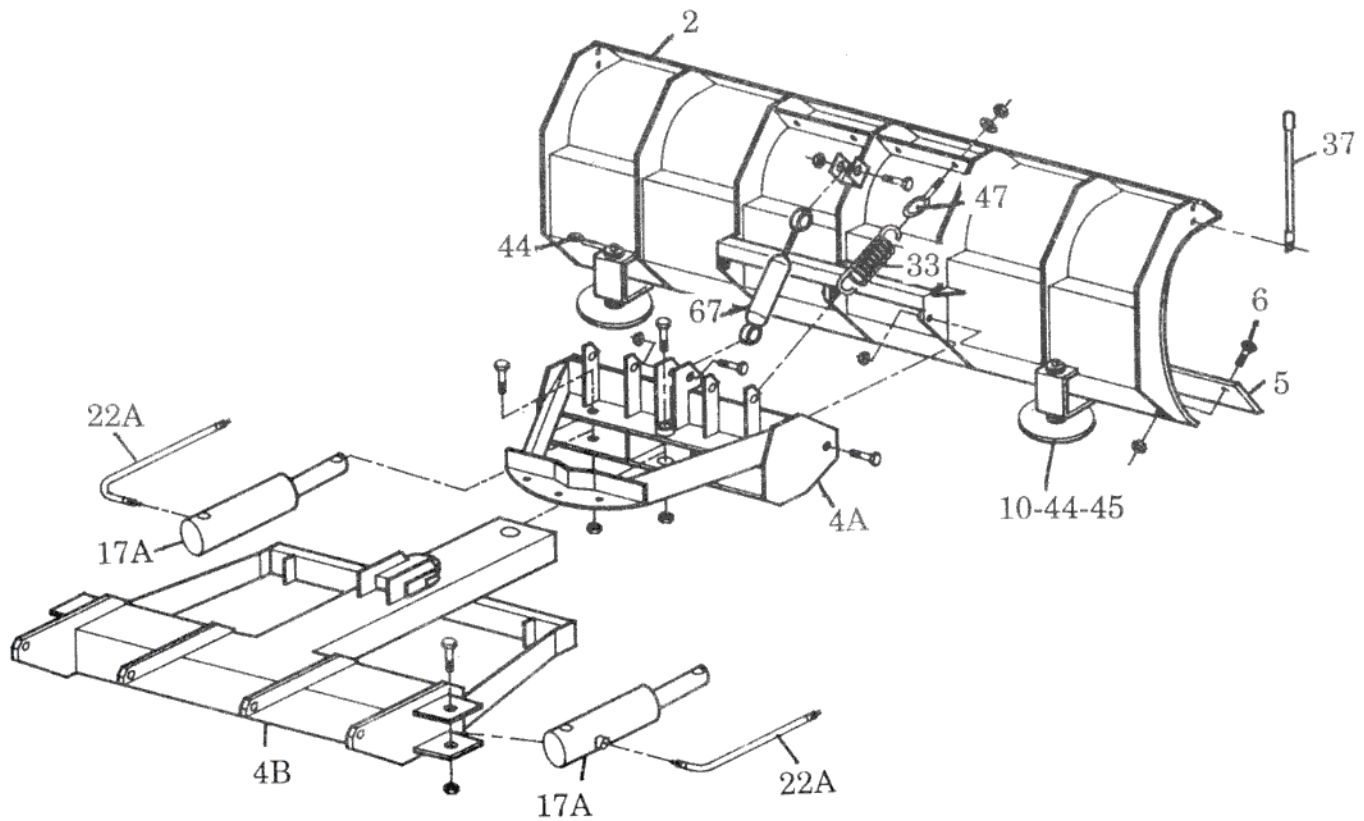

FIGURE 3
4. Attach the T-FRAME ATTACHMENT BAR (Ref. No. 4A, Fig. 3) to the BLADE ASSEMBLY (Ref. No. 2, Fig. 3) using the three (3) 3/4" x 4" HEX HEAD BOLTS and the 3/4" SELF LOCKING NUTS.
5. Attach the T-FRAME ASSEMBLY (Ref. No. 4, Fig. 3) to the T-FRAME ATTACHMENT BAR (Ref. No. 4A, Fig. 3) using the 3/4" x 5-1/2" HEX HEAD BOLT and the 3/4" SELF LOCKING NUT.
6. Attach the red HYDRAULIC CYLINDERS (Ref. No. 17A, Fig. 3) to the T-FRAME (Ref. No. 4B, Fig. 3) and the T-FRAME ATTACHMENT BAR (Ref. No. 4A, Fig. 3) using the four (4) 5/8" x 4-1/2" and the 5/8" SELF LOCKING NUTS.
7. Attach the SHOCK ABSORBER (for Super-Duty Plows only Ref. No. 67, Fig. 3) to the BLADE ASSEMBLY and the T-FRAME ATTACHMENT BAR using two (2) 5/8" x 3-1/2" HEX HEAD BOLTS and the 5/8" SELF LOCKING NUTS.
8. Insert the TRIP SPRINGS (Ref. No. 33, Fig. 3) through the holes provided on the T-FRAME ATTACHMENT BAR (Ref. No. 4A, Fig. 3). Then slip the EYE BOLTS (Ref. No. 47, Fig. 3) around the loose end of the TRIP SPRING. Thread a 1/2" STANDARD HEX HEAD NUT all the way onto each of the EYE BOLTS. Insert the threads of each EYE BOLT through the holes in the spring mounting brackets on the back of the blade. Secure the EYE BOLTS using 1/2" SELF LOCKING NUTS and 1/2" FLAT WASHERS. Tighten the self locking nuts on the EYE BOLTS until daylight begins to show between the coils of the springs, then tighten the JAM NUT.
14. Attach the BLADE GUIDES (Ref. No. 37, Fig. 3) to the BLADE ASSEMBLY (Ref. No. 2, Fig. 3) in the holes provided using four (4) 5/16" x 1" HEX HEAD BOLTS and the 5/16" SELF LOCKING NUTS.